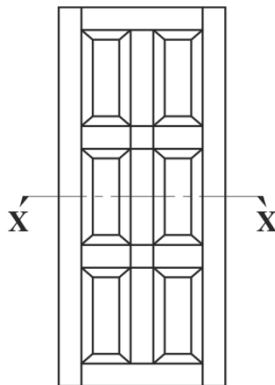

Figure 2. Panel Door
- (e) Figure 2 shows a panel door